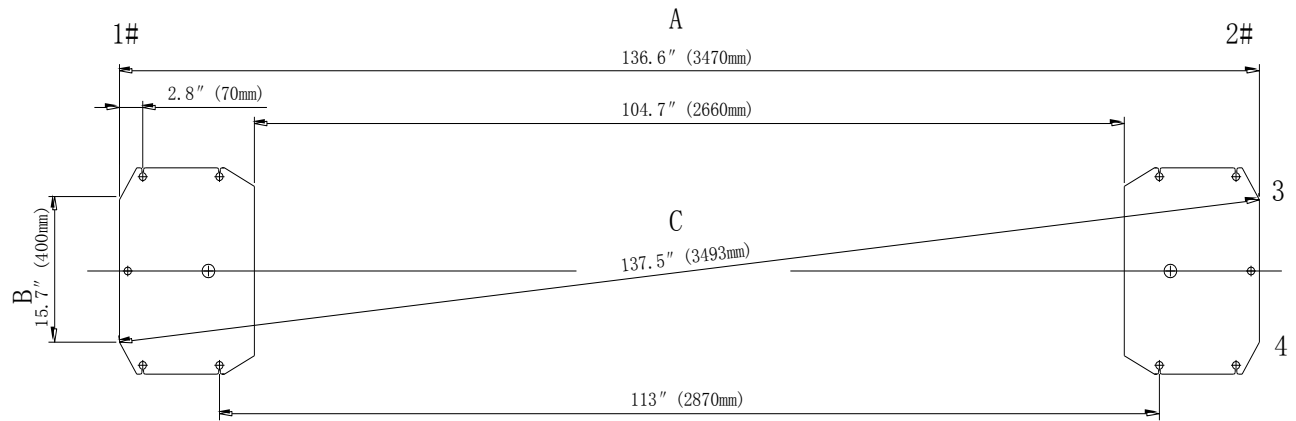
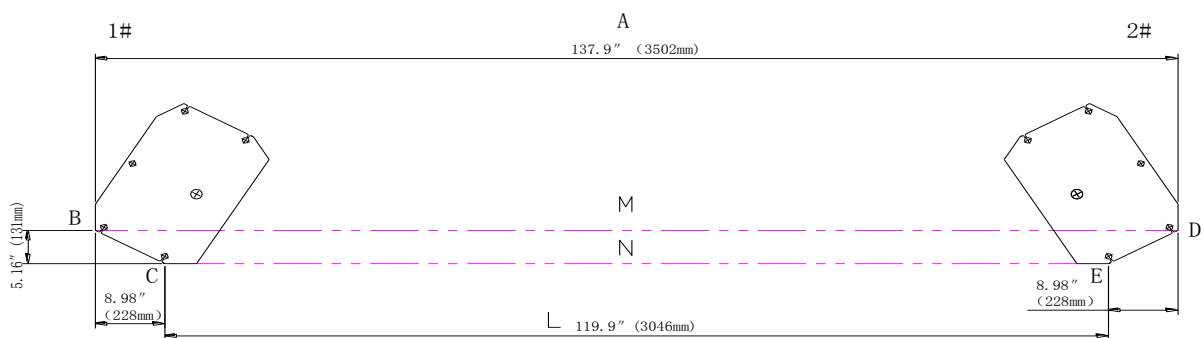

Figure 3 TLT210-AS
Figure 4 TLT210-A
As shown in Figure 3 (symmetric installation).
For asymmetric installation see Figure 4.
- Recheck overall width dimension, fig. 3 or fig. 4. Drill the anchor holes using the baseplate as a template. Drill through the floor if possible or at least 6 inches minimum.